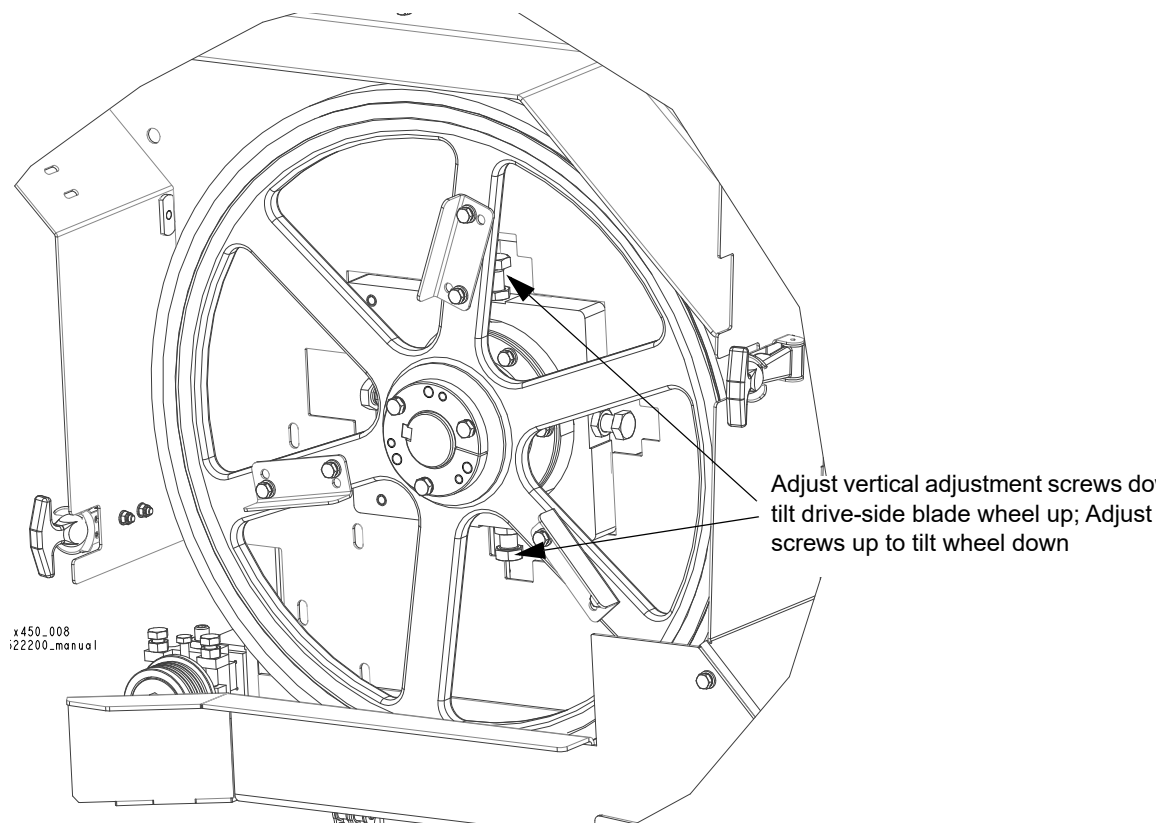

FIG. 5-5
**See Figure 5-5.** Use the vertical adjustment screws to adjust the drive-side blade wheel. To tilt the wheel, loosen the top adjustment screw one quarter turn. Loosen the jam nut on the bottom adjustment screw and tighten the screw. Tighten the top and bottom jam nuts.